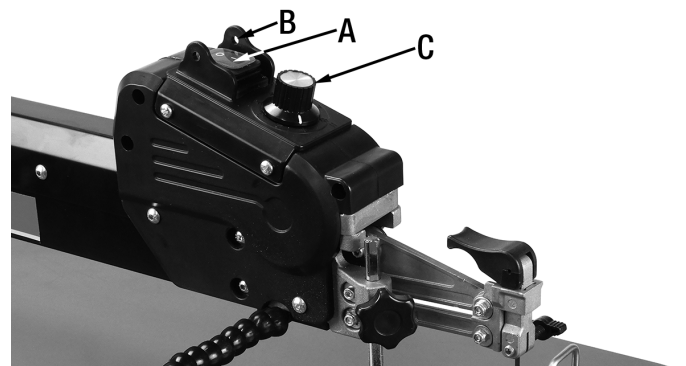

FIGURE 6
This Scroll Saw is equipped with a rocking On/Off power switch (A) Fig.6, featuring a plastic dust protection cover. Additionally, the switch can be locked out by inserting a padlock through the two holes (B).
The Scroll Saw blade speed can be adjusted by rotating the blade speed adjustment knob (C) Fig.6. Turn the knob clockwise to increase the blade speed, and counterclockwise to decrease the blade speed.